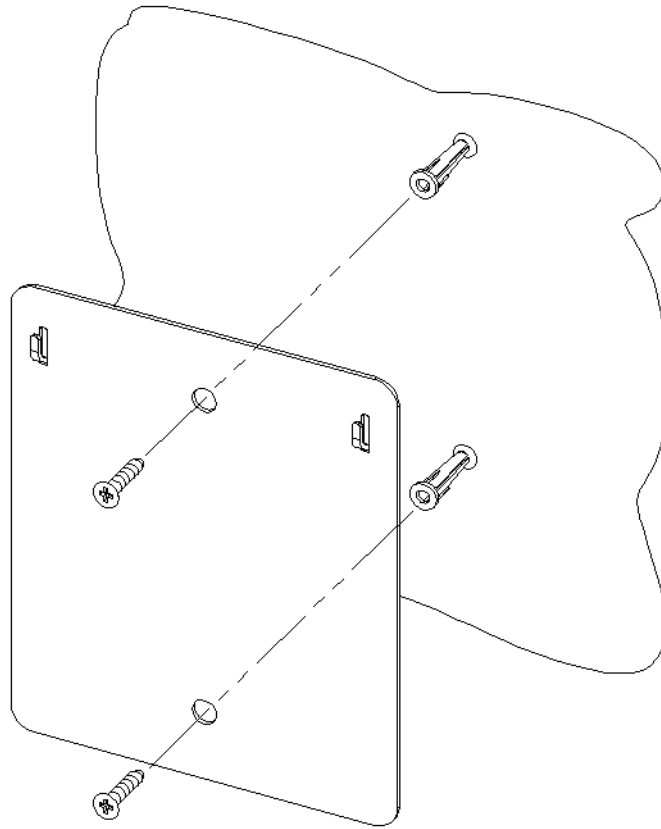

Figure 17: Mounting Wall Bracket
2. Tap anchors into holes until they are flush to the wall. Using Flat-head screws provided, mount bracket to the wall as shown above. Do not fully tighten screws until both have been installed (see Figure 17).